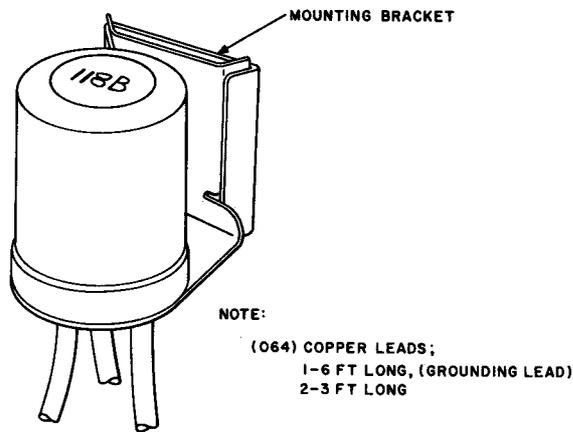

Fig. 85—118B Protector
**13.01** The 118B protector (Fig. 85), which supersedes the 99C protector, is designed to protect telephone circuits in the event of an accidental contact between power wires (of the MGN-type and carrying over 2000 volts) and telephone wires. The 118B protector consists of three carbon electrodes, having 0.020-inch gaps,